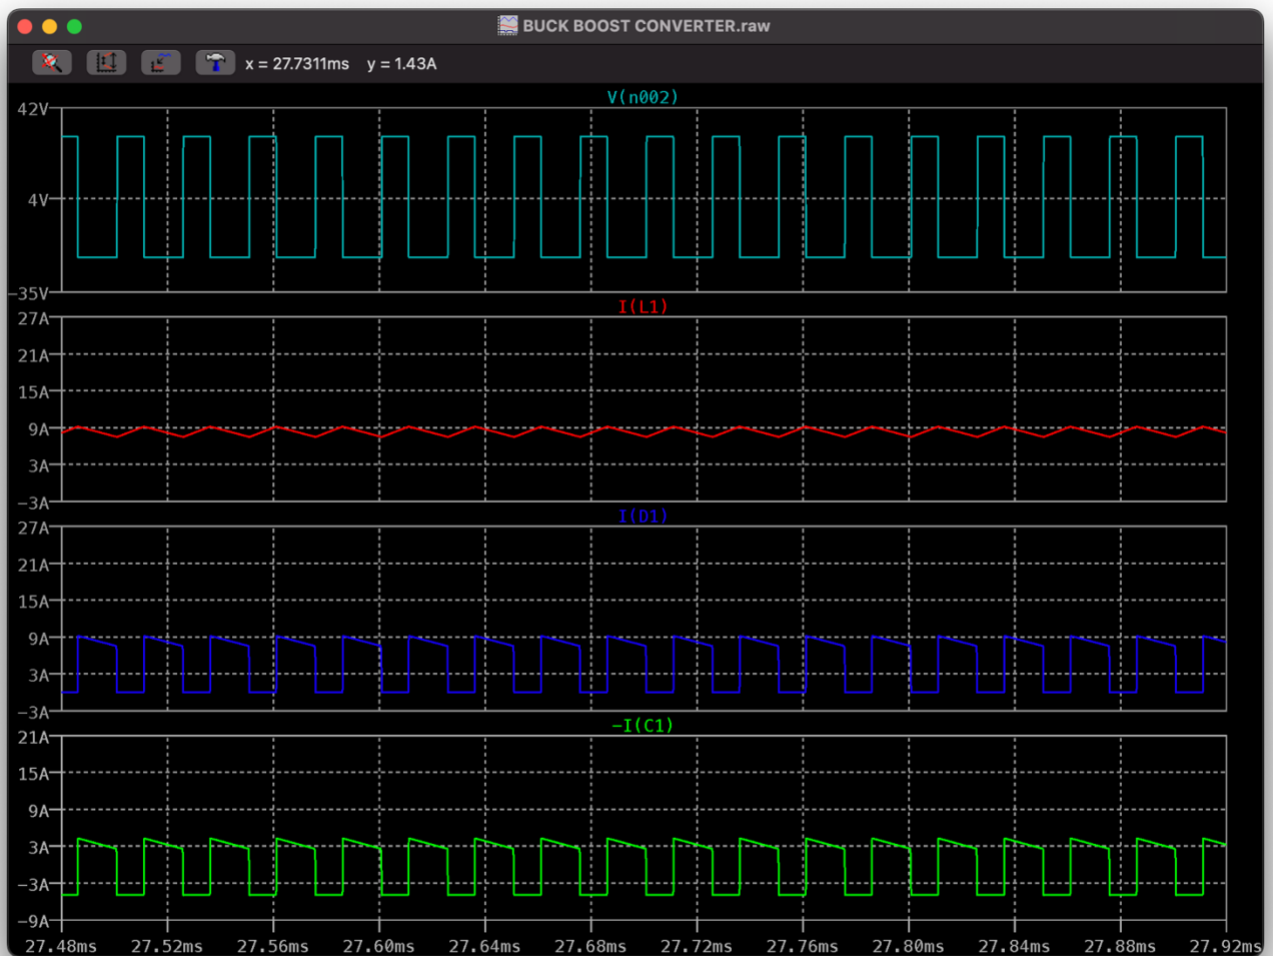

Figure 6: Buck Boost Waveforms
4. The waveforms from LTSPICE are shown below in figure 6.